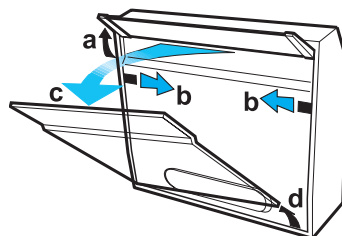

FIG.1
2. Pull out the steam deflector (**a-Fig. 1**).
3. Open the extractor grille (**b,c,d-Fig. 1**).